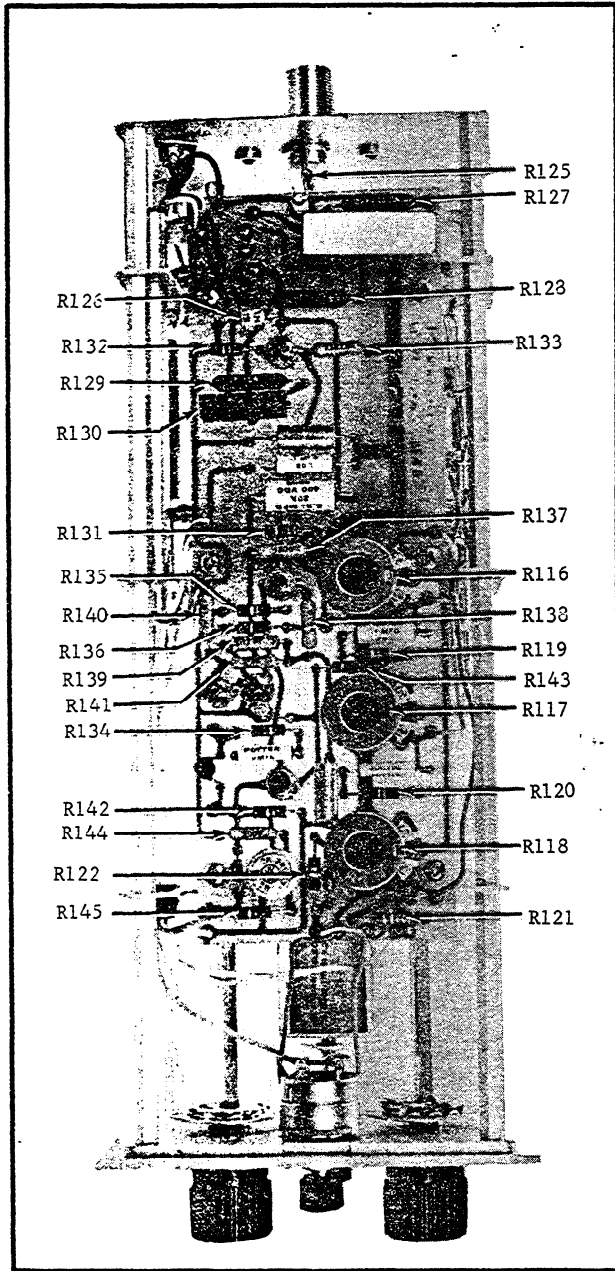
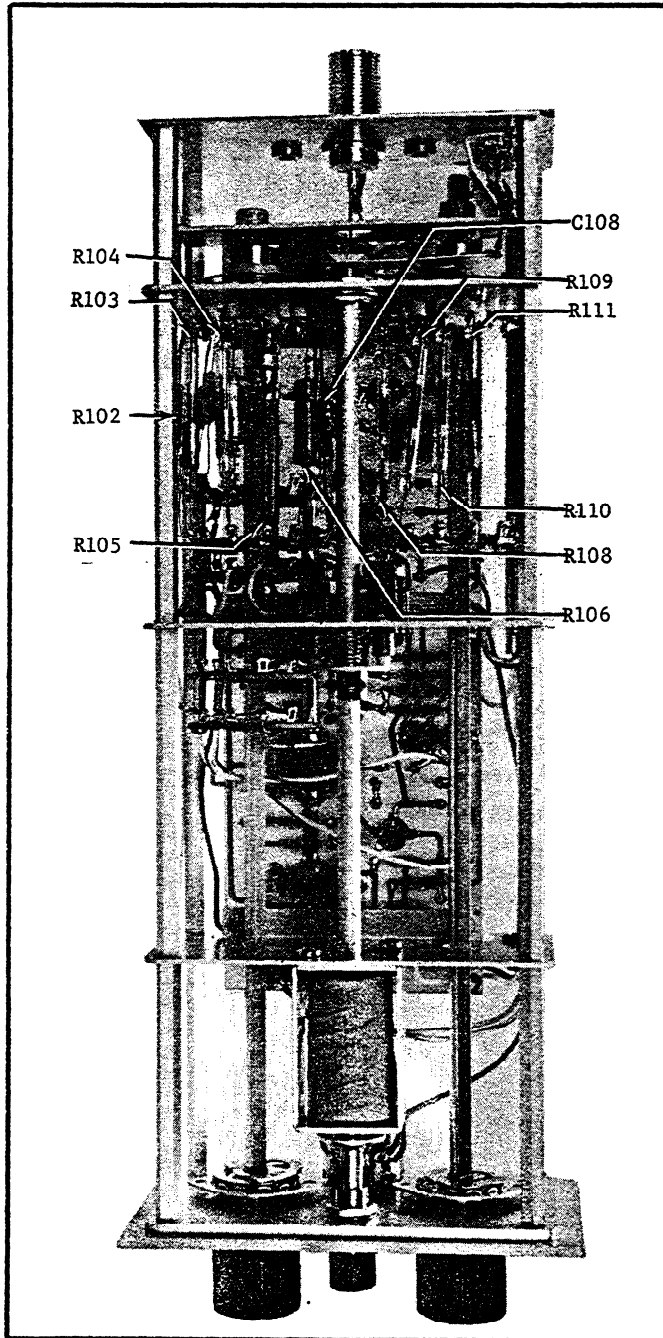

FIGURE 22. Resistors of Model 4170 Input Head.
FIGURE 24. Components on Model 4170 Input Head (Side Opposite PC-66).
3. Adjust potentiometer R118 (Figure 22) for minimum rise time without overshoot. Typical traces are shown in Figure 17. Observe the trace for the 10-11 and 10-12 range. Adjust potentiometers R117 and R116, respectively, if necessary. The 10-9 ampere range is adjusted for optimum rise time by sliding the brass band around the 109 high-megohm resistor, R111 (Figure 24) along the length of the unit.